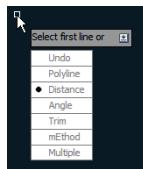

FIGURE 2.26
- Press the down-arrow key three more times, and press Enter to select the Distance option in the Dynamic Input display (see Figure 2.26). Type **1'** (or **30** for metric), and press Enter twice to input equal first and second distances, which are **1'** (or 30 for metric) each.